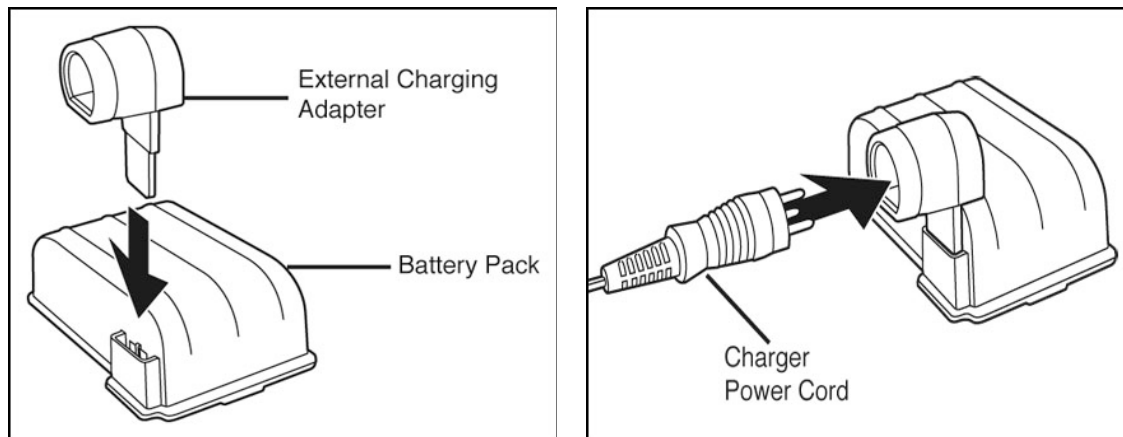

Fig. 3
3. Insert the charging lead into the socket in the side of the blower unit. Alternatively, the battery can be removed from the blower unit and charged using the external charging adapter (part number 520-04-24) (Fig. 3).